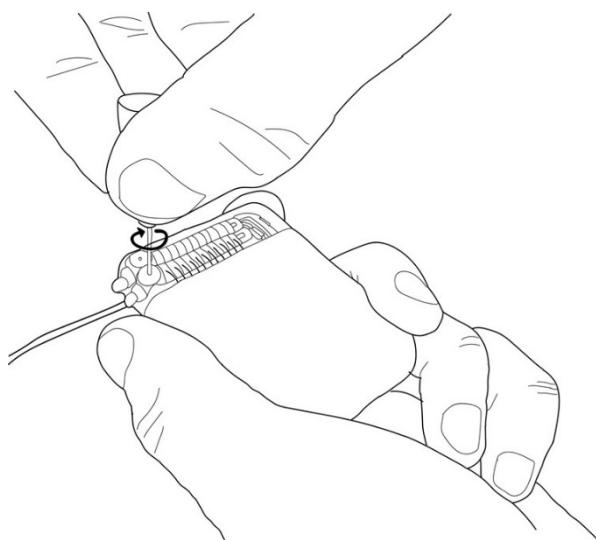

Figure 6.2: Tightening the port screws until you hear a "click".
6. When satisfied that the leads are correctly inserted, use the torque wrench (supplied in the kit) to tighten the setscrew on each port until you hear a "click" (refer to Figure 6.2).